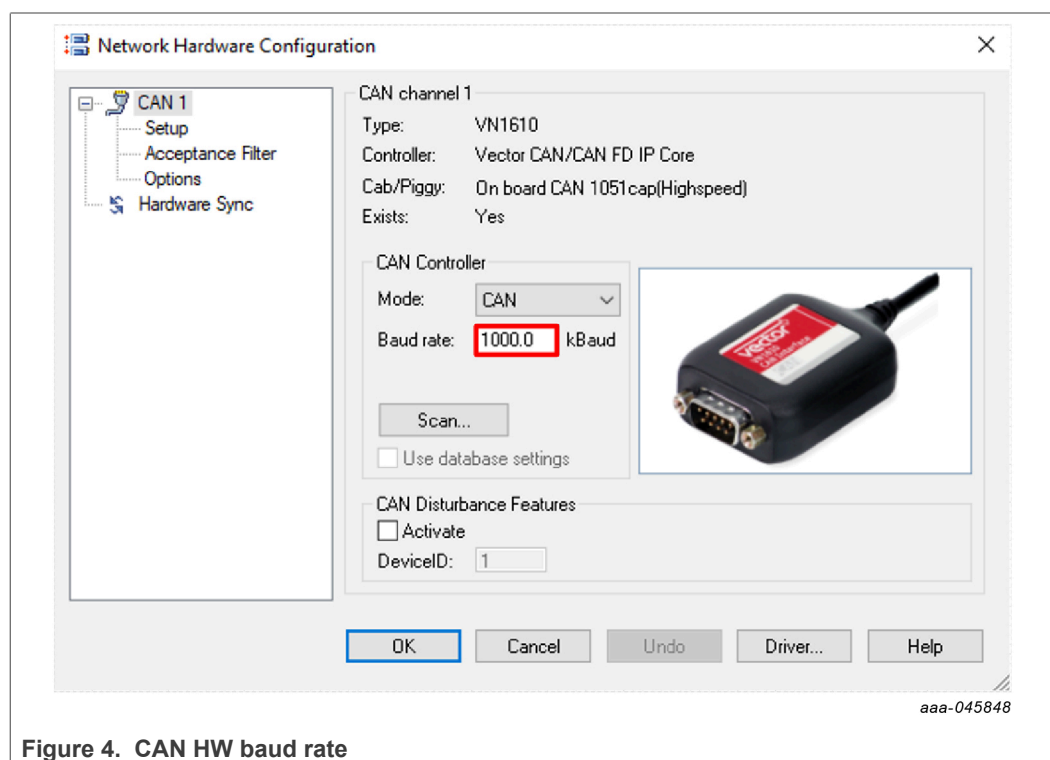

Figure 4. CAN HW baud rate
- Any changes to CFG0 and CFG1 pins on MC33665A should be reflected for CAN baud rate settings (shown in Figure 4) in CANoe workspace (MC33665A_CCMU_Demo_V2) → network hardware configuration. See Table 1 and CFG0 and CFG1 pin settings of MC33665A on RD33775ACNCEVB before updating the **Network Hardware Configuration**.